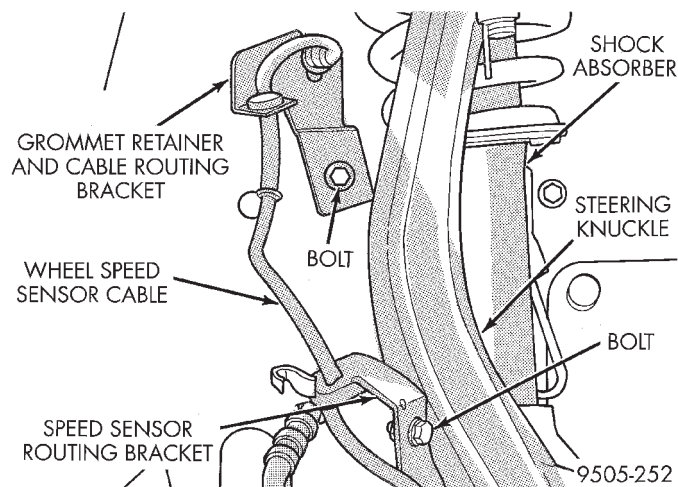

Fig. 27 Wheel Speed Sensor Cable Grommet Retainer
(11) Remove retainer for wheel speed sensor cable grommet (Fig. 27) from right inner fender.
(15) On a vehicle equipped with antilock brakes, install wheel speed sensor cable sealing grommet in routing hole. Install retainer for wheel speed sensor cable grommet (Fig. 27) on right inner fender.
(16) On a vehicle not equipped with antilock brakes, install sealing plug back in routing hole.
(17) Install accessory drive slash shield in right front inner fender.
(18) Install tire back on vehicle. Tighten the wheel lug nuts in proper sequence until all lug nuts are torqued to half specification. Then repeat tightening sequence to full specified torque of 129 N·m (95 ft. lbs.).
(19) Lower vehicle.